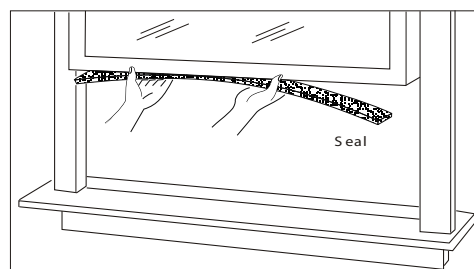

Fig. 3
3. Cut the adhesive-backed seal strip the window width. Remove the backing from the seal strip and attach the seal strip to the underside of the bottom window. (Fig. 3)